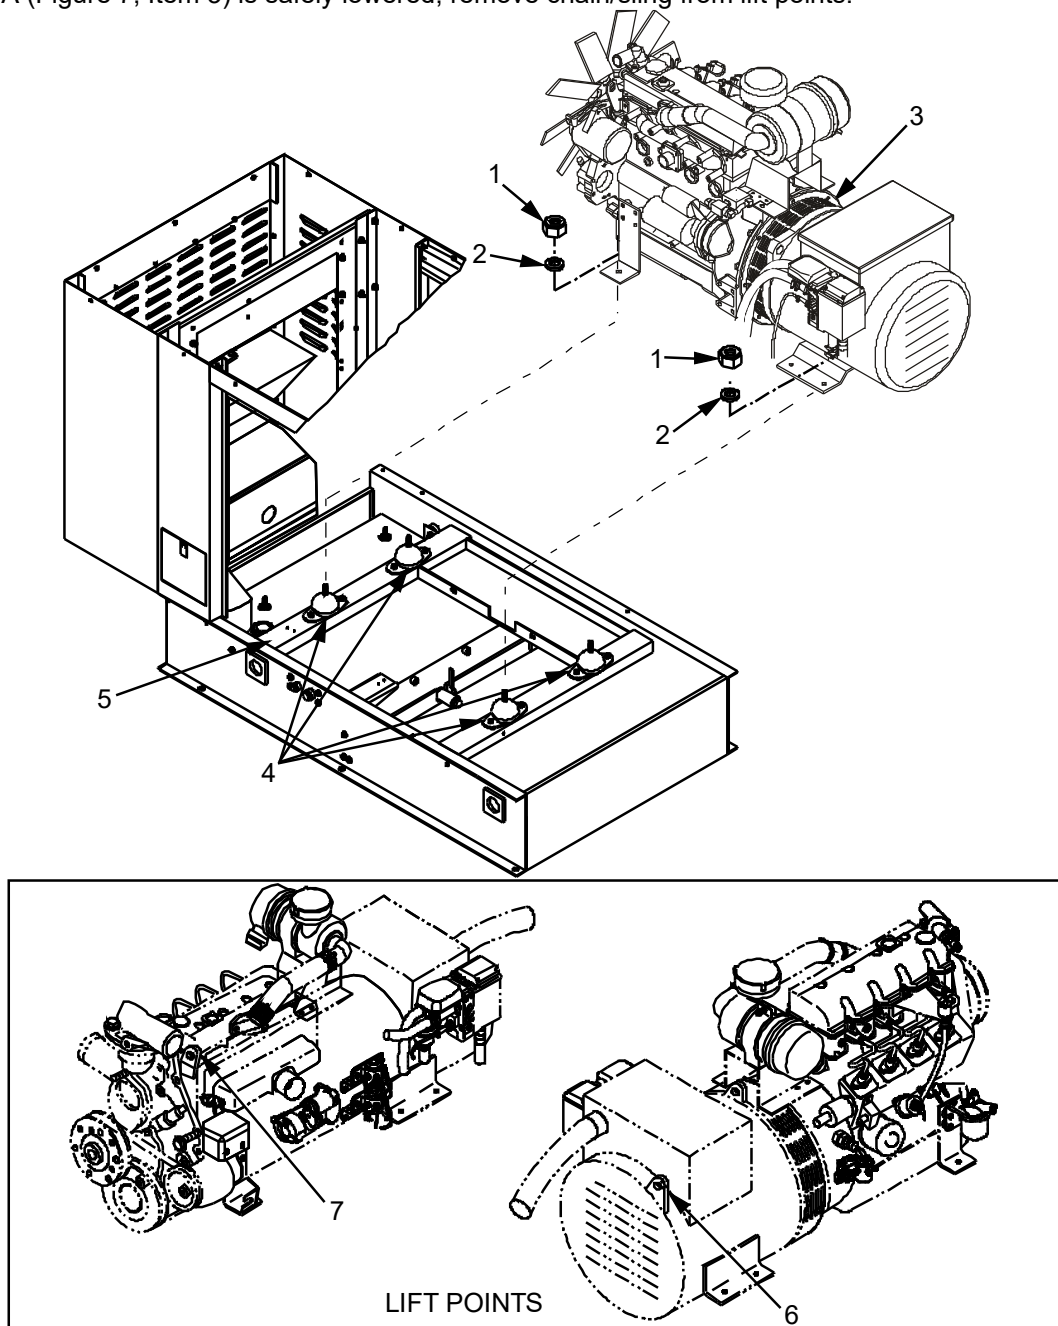

Figure 7. Engine Generator Assembly (EGA) - Replace.
One lift point (Figure 7, Item 7) is located on the engine and one lift point (Figure 7, Item 6) is located on the generator.
1. Attach chain/sling to two lift points (Figure 7, Items 6 and 7).
2. Remove and retain four mounting nuts (Figure 7, Item 1) and washers (Figure 7, Item 2) securing EGA (Figure 7, Item 3) to shock mounts (Figure 7, Item 4) on frame (Figure 7, Item 5).
3. If setting EGA on dirt, sand or other unstable ground, place supports (i.e., treated lumber) along ground for EGA (Figure 7, Item 3) to be placed on once removed from trailer.
5. Using a suitable lifting device, raise EGA (Figure 7, Item 3) off of trailer and place on supports. Once EGA (Figure 7, Item 3) is safely lowered, remove chain/sling from lift points.
3. Attach chain/sling to the two lift points (Figure 7, Items 6 and 7).
4. Using a suitable lifting device, raise EGA (Figure 7, Item 3) up over enclosure and begin lowering.
5. Guide EGA (Figure 7, Item 3) onto shock mounts (Figure 7, Item 4) and secure using four mounting nuts (Figure 7, Item 1) and washers (Figure 7, Item 2).
6. Using torque wrench, tighten four mounting nuts (Figure 7, Item 1) to 51 ft./lb (69.15 n-m/7.05 kgf-m).
7. Once EGA (Figure 7, Item 3) is secured, remove chain/sling from lift points.